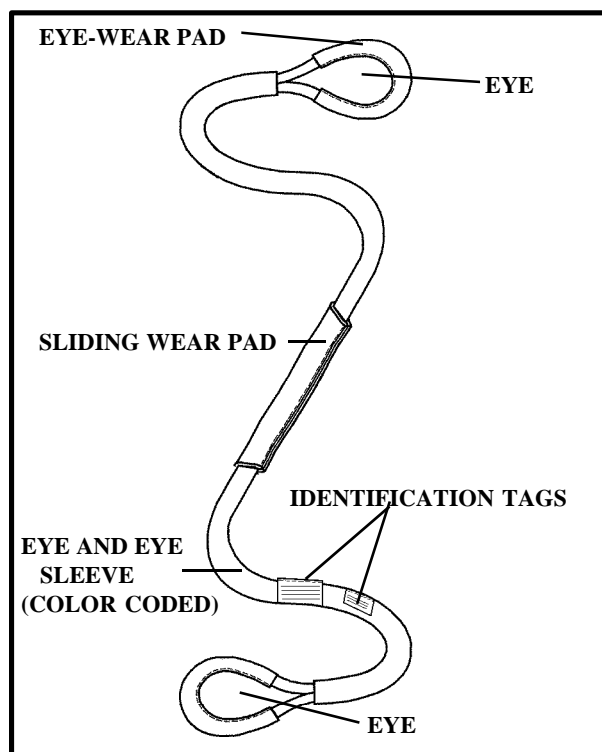

Figure 8-13. Polyester Roundsling
**a. Polyester Roundslings.** Polyester roundslings are used as the primary vertical pendant (Figure 8-13). Roundslings can be attached to the load using the three hitches described in Chapter 6. The lifting capacity of polyester roundslings vary with the size of the sling and the type of hitch used to attach the load. Each sling has two identification tags permanently sewn to the eye and eye sleeve identifying the size and capacity, as well as other important information necessary for the safe use of roundslings. These slings are also color coded to designate the size of the sling. Refer to Table 8-1 for sling lengths and lift capacities.
**(1) Inspection.** Inspect the polyester roundslings before and after each use. Remove the roundslings from service if any of the following are found: